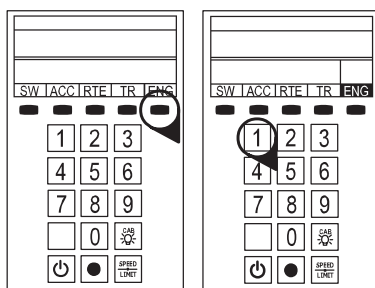

Figure 1. LEGACY engine selection
4. **As illustrated in Figure 1, press ENG and 1 (or your selected ENG ID#) to address the locomotive with your LEGACY CAB-2 Remote Controller.**